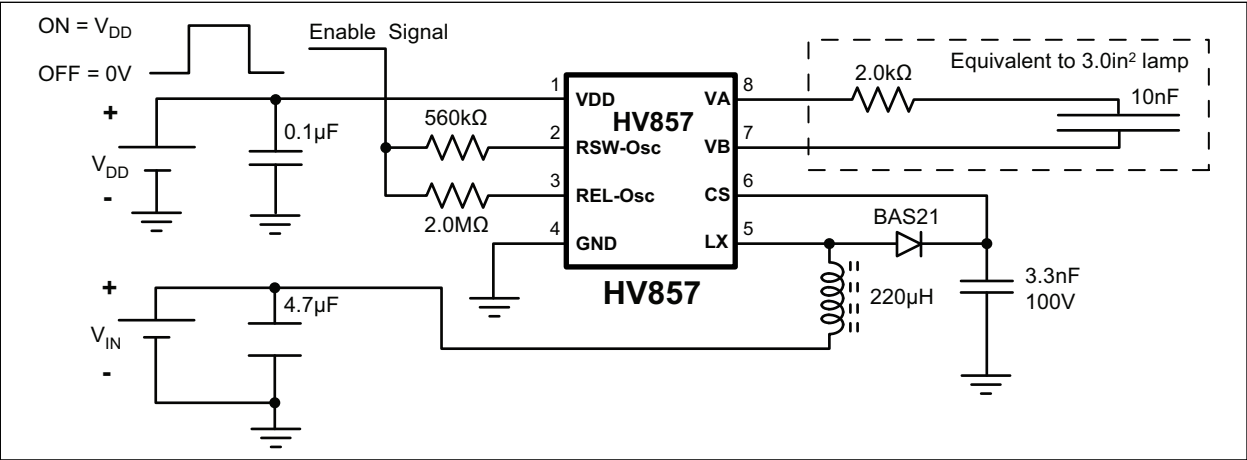

FIGURE 3-1: Typical Application/Test Circuit.
3.1.1 TYPICAL PERFORMANCE CURVES FOR TYPICAL APPLICATION/TEST CIRCUIT (Figure 3-1)